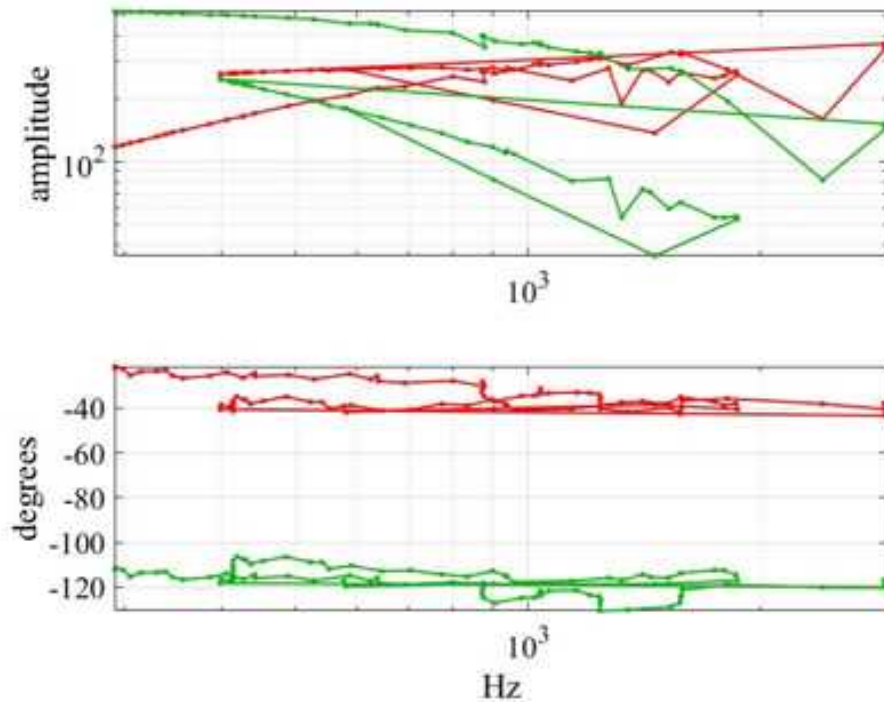

Figure 17. I shouldn't publish my trashcan, but this was artistic?! Nothing this complicated works the first time. Persevere!!
1) Let me explain some things we *didn't* do here – some mistakes we could have made (and I did make in prior attempts). The first time I did a Bode plot experiment, I relied on a Human Robot, i.e., I turned the frequency knobs slowly by hand while MATLAB called `oscope3` and extracted data – similar to how we did our first (semi-) automated I-V plots. I renamed `fregs` and `amplitudes`, moved the frequency jumper, and repeated. Then I massaged the two data sets together. There was a lot of manual labor combining data from the two jumper positions, sorting to deal with overlapping frequencies, ... so repeating the experiment was a daunting proposition (i.e., ~15 minutes vs. 40 seconds). It's cost me many (manyⁿ) hours to reduce the 15 minute experiments to 40 seconds, but the value is more than just saving 14 minutes each time. I've eliminated a huge space for potential errors – imagine trying to debug which of a dozen or more manual steps, renaming variables, joining, sorting, ... caused the nonsensical results of Fig. 17. That time and intellectual effort must be repeated each time ... The up-front work of automation can often be justified even if you don't intend to repeat measurements many times. It's so nice when your boss asks (Friday afternoon), "would you mind repeating that experiment that you did a year ago ..." and you can respond affirmatively – no problem because the protocol and documentation are executable.